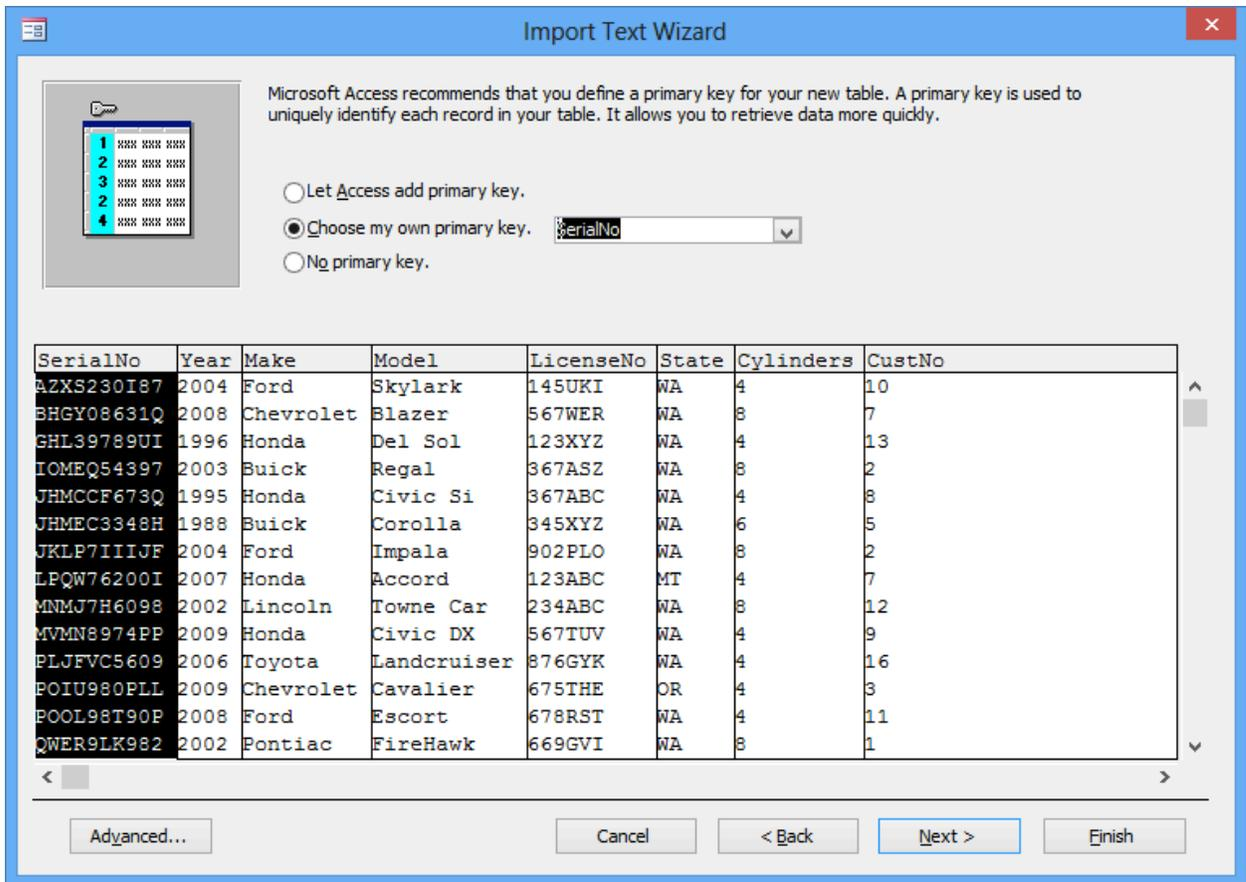

Figure 41: Choosing the Primary Key in the Import Text Wizard
7. Choose the Primary Key: In the next window (Figure 41) select “Choose my own Primary Key”. Make sure that the *SerialNo* field is selected.